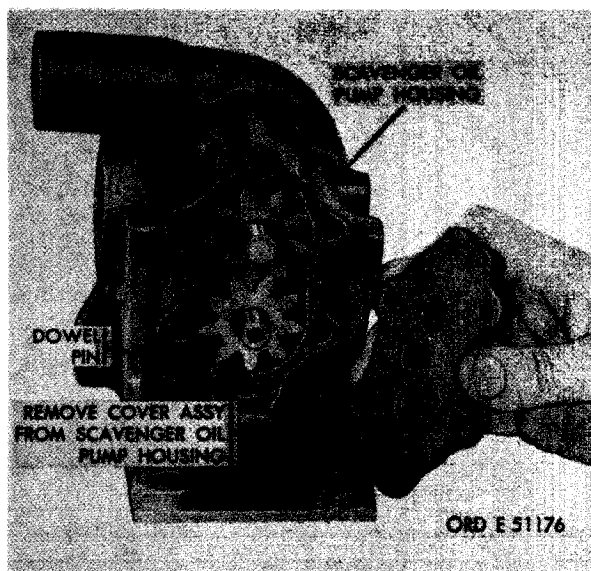

**FIGURE 362. REMOVING OR INSTALLING OIL PUMP PRESSURE RELIEF VALVE.**
- (4) Figure 362. (A) Remove relief valve cap. (B) Remove and discard relief valve cap gasket. (C) Remove relief valve spring. (D) Remove relief valve plunger.